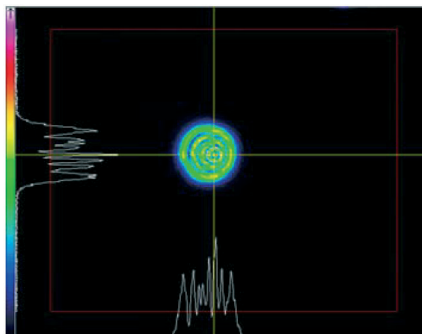

Figure 10. Diffraction pattern of Ø1 mm.
g. Install the output aperture of Ø1 mm and check diffraction pattern on the camera (fig. 10).